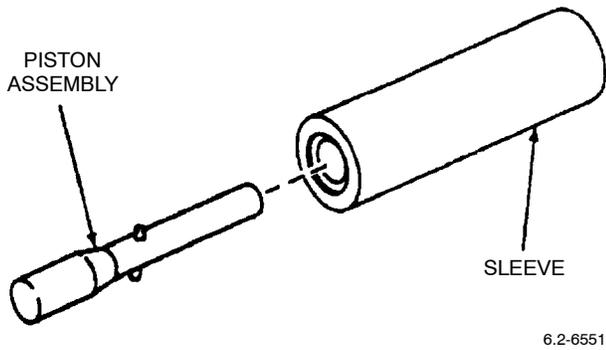

Figure 4. Trial Fit of Piston Assembly
- (1) Sleeve.
- (2) Piston assembly.
- (3) Adapter plate as applicable.
- (4) Plug assembly.
b. Trial fit piston assembly into sleeve. Piston assembly should slide easily into sleeve allowing 1/8-in. of piston assembly to protrude (Figure 4).